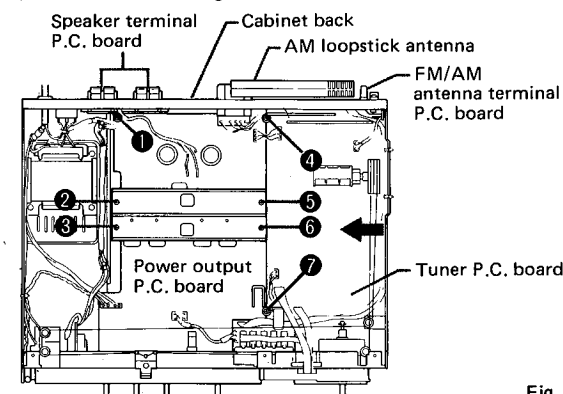

Fig. 5
7. Remove the screws ① to ⑦ in Fig. 5.
9. Remove the power output P.C. board backward, and remove the tuner P.C. board in the direction of an arrow shown in Fig. 5.